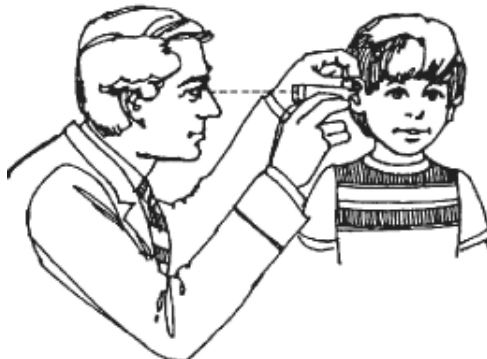

Figure 5: Positioning the probe.
4. Position the probe up against the entrance of the ear canal, applying a gentle pressure to maintain a tight seal (Figure 5).